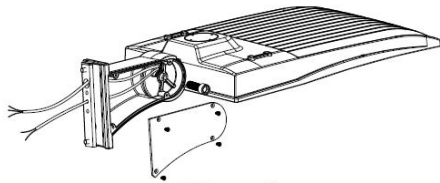

Figure 3
1. Remove the bracket mounting screws from the fixture, open the side lid of the bracket and run the wires through the bracket. (Figure 3)